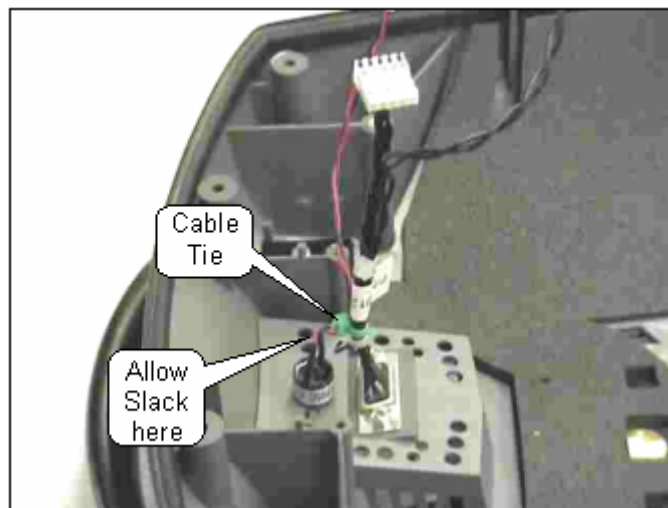

Figure 41: Buzzer Installation.
5. Place buzzer as shown in figure 41. Ensure that the buzzer opening is centered over the grill hole. Hold in place until adhesive cures.
6. Install the Control Module Assembly. Secure the wire harness with Cable as shown on Figure 41. Insure that there is a slack on the wire harness before tightening the Cable Tie. Plug in the buzzer.